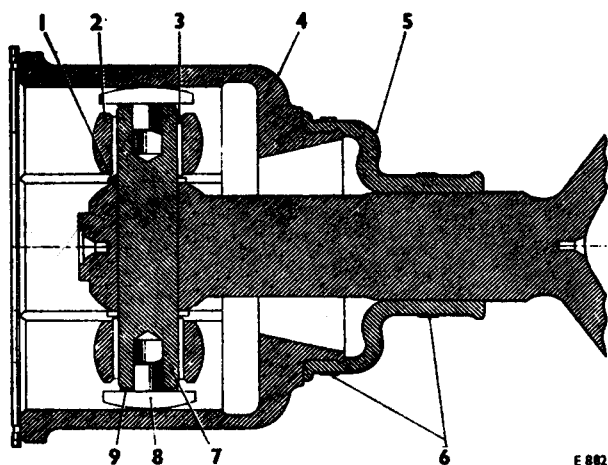

FIG. F5 BALL AND TRUNNION JOINT
3. Move the joint body up the shaft far enough to remove the trunnion buttons, adjusting washers, 62 roller bearings and the bearing retainers from the trunnion pin (see Fig. F5).